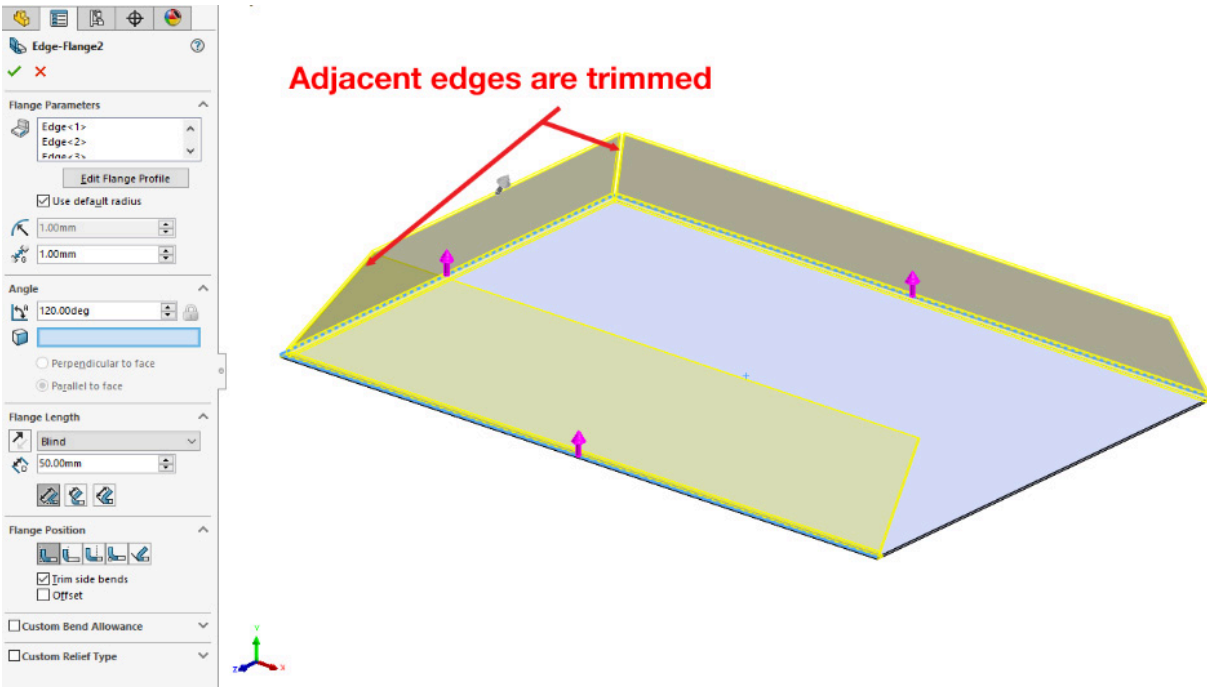

Figure 2.15: When the Bend Angle is over 90°, the adjacent edges are trimmed away
3. Note that as the bend angle is increased over 90°, the adjacent edges of the flanges will automatically be trimmed back to avoid them clashing (*Figure 2.15*).